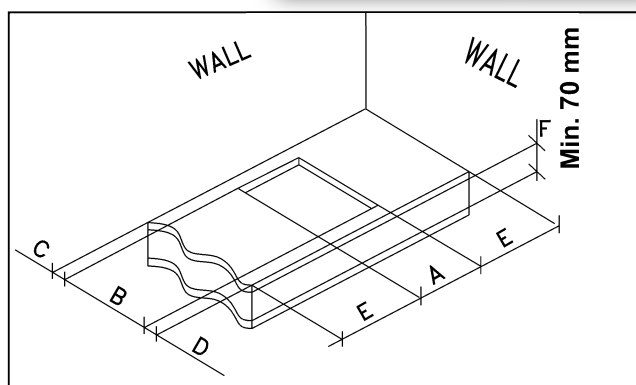

FIG. 7
The measurements of the opening made in the top of the modular cabinet and into which the cooktop will be installed are indicated in either fig. 7. Always comply with the measurements given for the hole into which the appliance will be recessed (see fig. 7 and 8).
- In order to avoid accidental touch with the overheating bottom of the hob, during the working, is necessary to put a wooden insert, fixed by screws, at a minimum distance of 70 mm from the top (see fig. 7).